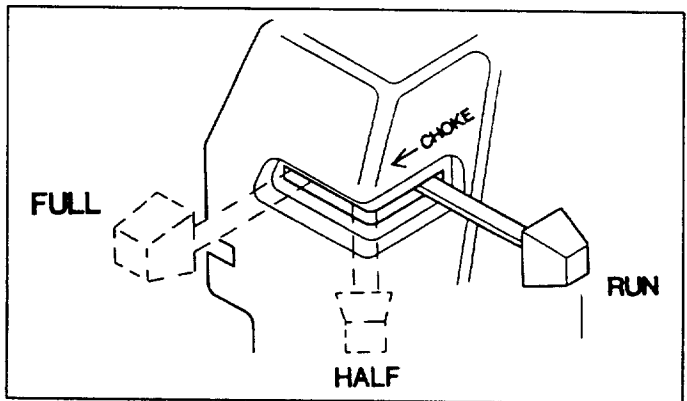

FIG. 6
- Close the choke to FULL position (Fig. 6) by sliding it to far position in direction indicated by arrow on air cleaner housing.